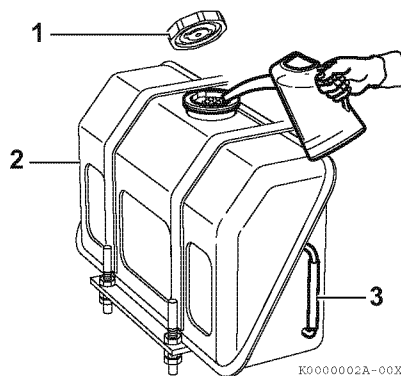

Figure 4-3
1. Clean the area around the fuel cap (Figure 4-3, (1)).
2. Remove the fuel cap from the fuel tank (Figure 4-3, (2)).
3. Observe the fuel level sight gauge (Figure 4-3, (3)) and stop fueling when gauge shows fuel tank is full. Never overfill the fuel tank.